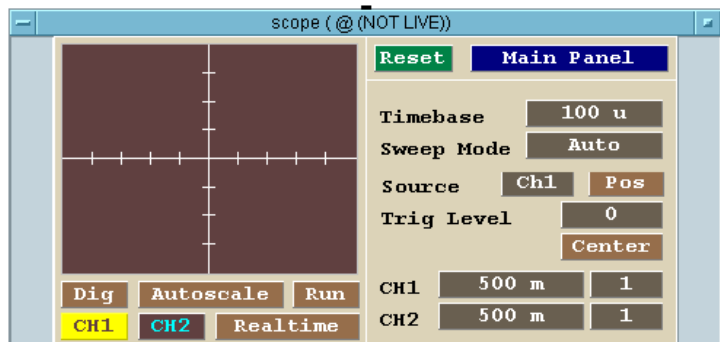

Figure 88 Selecting **scope(@ (NOT LIVE))**
- 3 Place the outline of the scope panel and click to place it. The display should look similar to Figure 88.